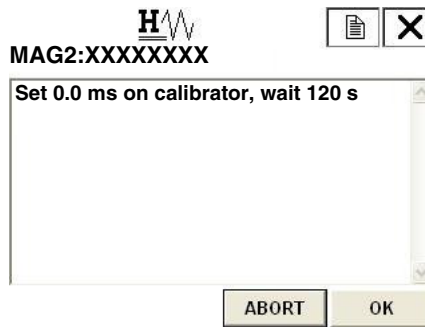

Figure 116.
- 4. Figure 116 then appears. Set the connected calibrator value to 0.0 m/s and then press F4 (OK).